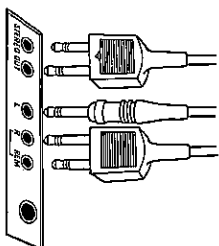

Fig. 9
1. Plug the FM stereo adaptor (optional accessory) into the STEREO OUT jacks. (Fig. 9)